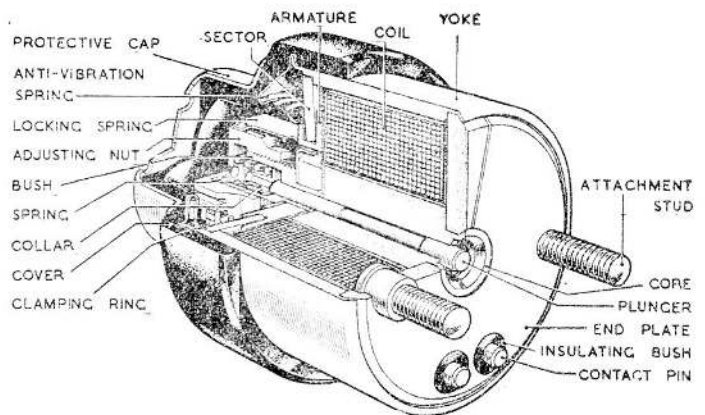

Fig. 1. Solenoid unit, Type A5151Y, Mk. 6
3. The solenoid unit (*fig. 1*) comprises a coil assembly and an armature assembly located in a yoke assembly fitted with the necessary electrical connections.